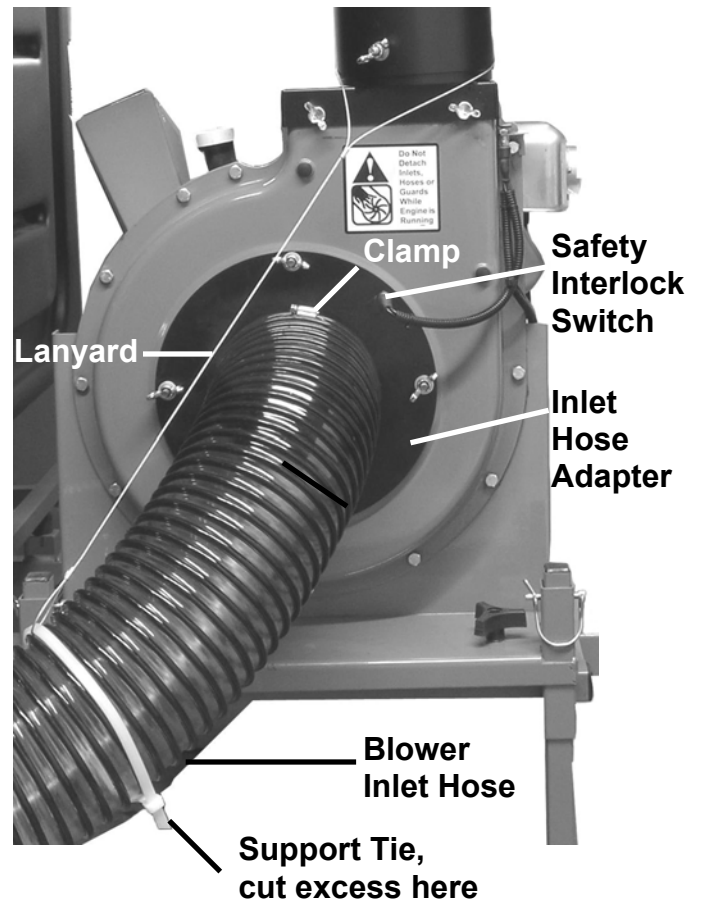

Figure 43
1. Cut the support tie around the Blower Inlet Hose (*Figure 43*).
2. Loosen the clamp retaining the Inlet Hose at the Inlet Hose Adapter and the connector fitting at the opposite end of the hose. Then slip the hose off the adapter and fitting (*Figure 43*).
5. Install a new Support Tie, through the Lanyard and around the Inlet Hose about half way along the hose (*Figure 43*). Cut off excess Support Tie.
2. Cut the tie around the Inlet Hose at the end of the Lanyard (*Figure 43*).